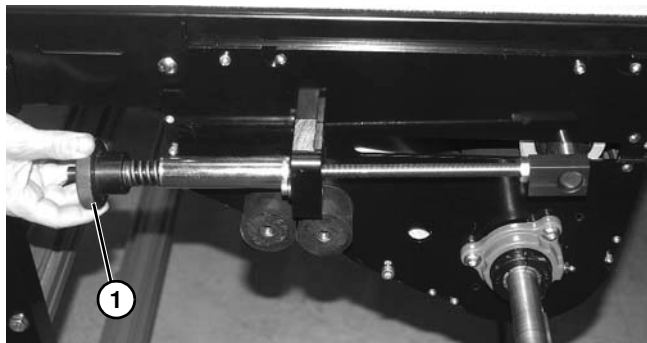

Figure 90
7. Adjust tensioning knob (**Figure 90, item 1**) clockwise on each side of conveyor to apply tension to the belt. Refer to “Conveyor Belt Tensioning” section on page 33 for more information.